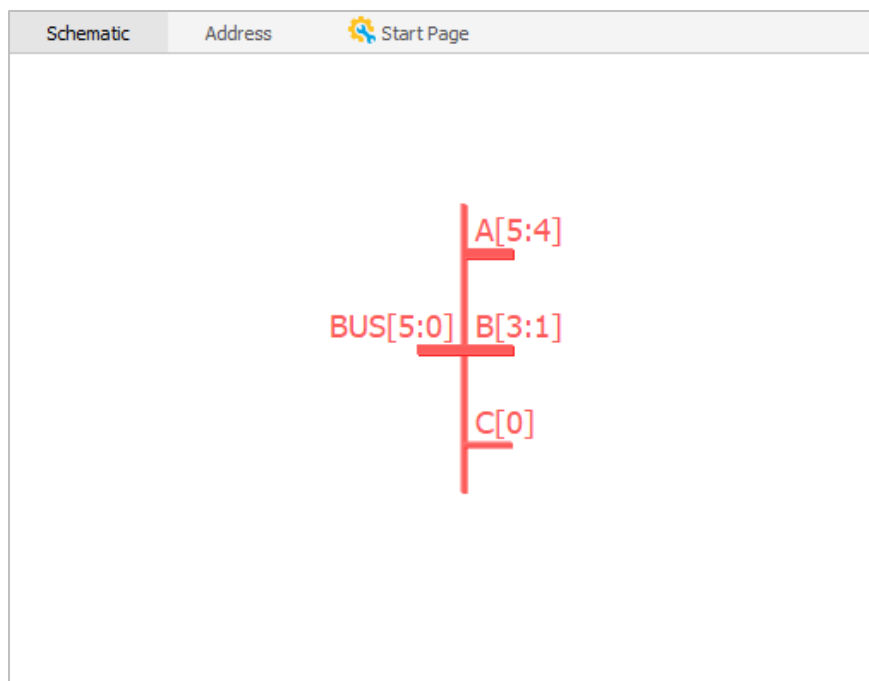

Figure 2.60. Schematic View Shows Split Module
2. Click **OK**. The schematic block for the split module in red appears in the Schematic view (Figure 2.60).